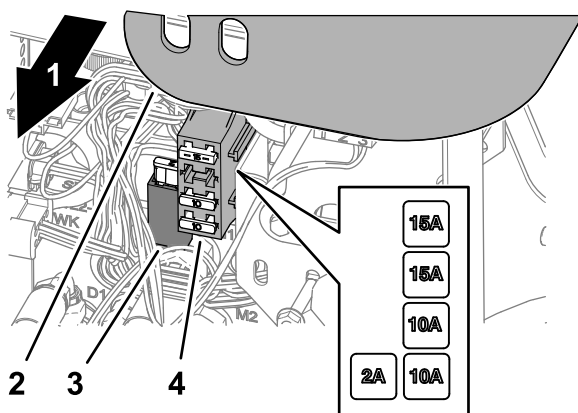

Figure 78
- Assemble the cover onto the control arm (Figure 78).
- Lift the cover from the control arm (Figure 78).
- Locate the open fuse in the fuse holder or fuse block (Figure 78).